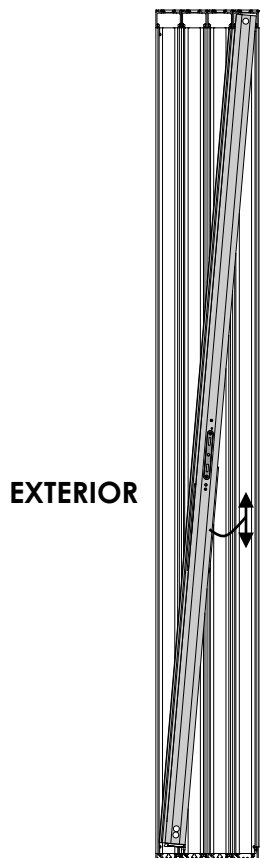

FIG 45
- From the exterior of the building, with the Glazing Stops on the panel to the exterior, lean the top of the panel into the Lock Panel Track at the Head of the frame and then lower it onto the corresponding track in the sill. **[FIG 45]**